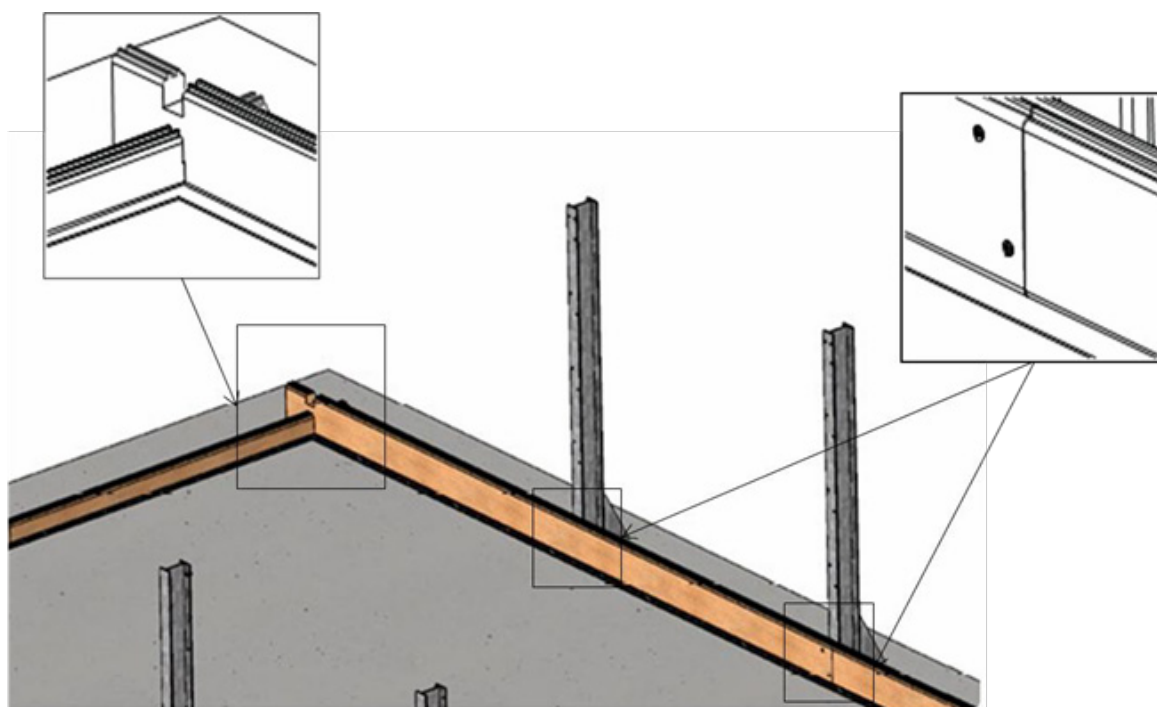

Figure 10 – Screwing the slats together
- screw them together as shown in Figure 10 using 2 screws per slat pair, and on both sides, each comprising 10 slats rows of slats, that is a total of 80 countersunk 5 x 40 A4 SS torx screws threaded over 25 mm (bag C) .